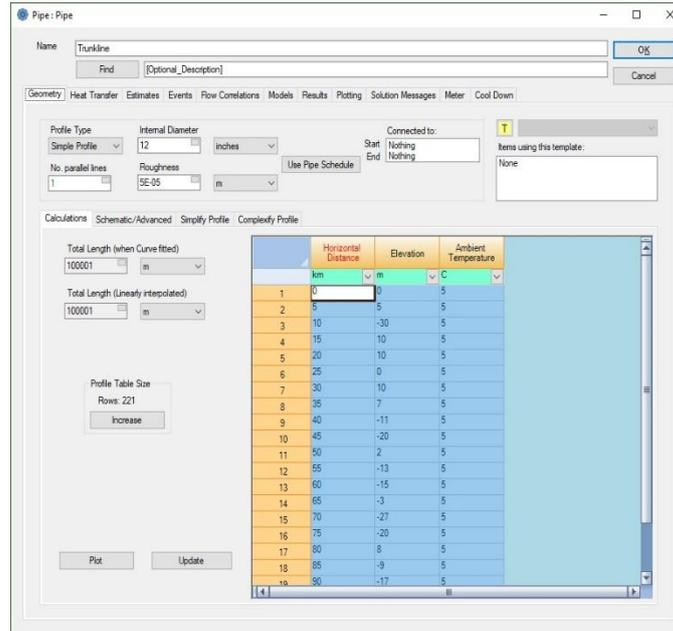

Figure 8: Main trunkline settings
- Copy the data from Table 1 (in the Excel file provided) and paste it into the profile table in the bottom right of the window. After the data has been entered the window should look like Figure 8. *Note: Actual pipeline profiles can easily be obtained by using the GIS view.*